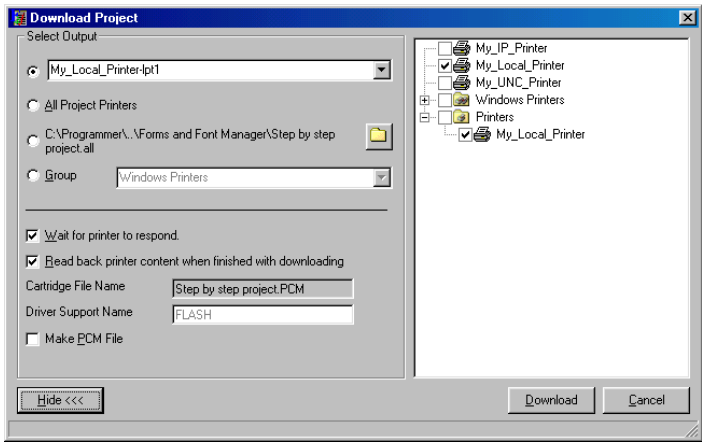

Figure 15
- Press the Icon  and figure 15 will appear or right click on the project and select "Download"